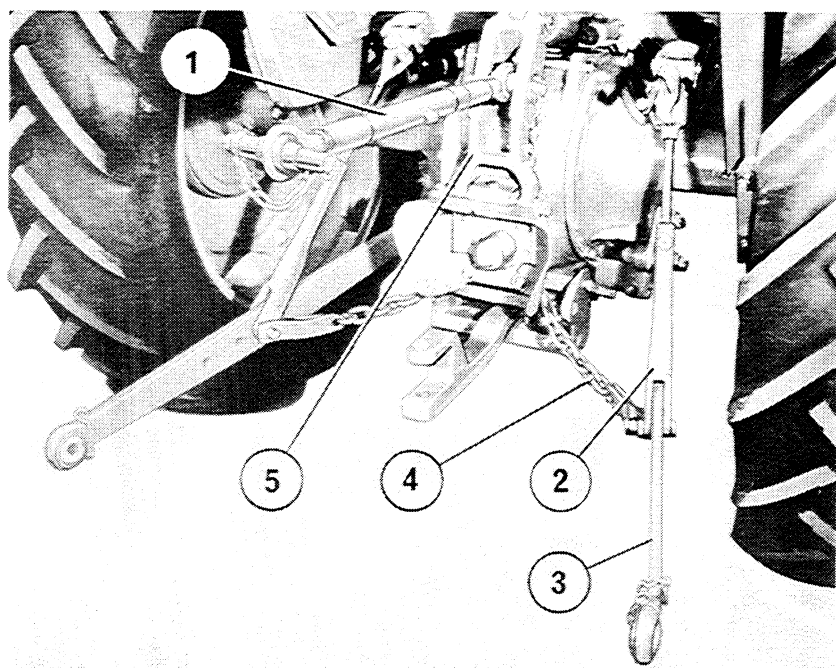

FIG. 1
Fig. 1. The three point linkage controls the movements of the mounted and semi-mounted implements. The linkage comprises five main components:— top link (1), lower links (3), lift rods (2), check chains (4) and control beam (5).